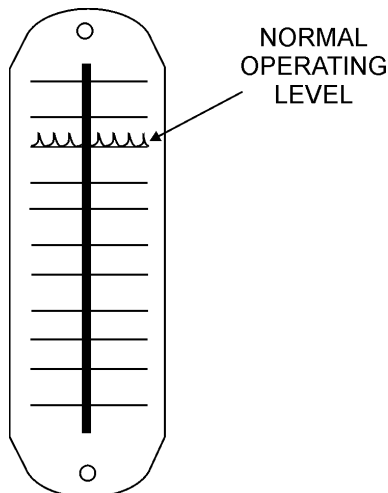

Figure 7. Hydraulic Sight Glass
3. Visually read the hydraulic sight glass (Figure 7) to see if the hydraulic oil level is low.